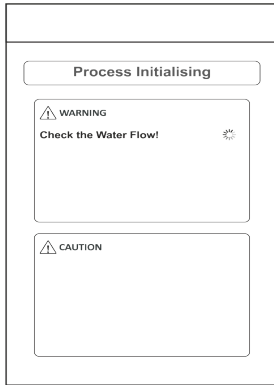

Fig. No. 27.1
e. **Process Initialization** (Ref. Fig. No. 27.1 & 27.2)